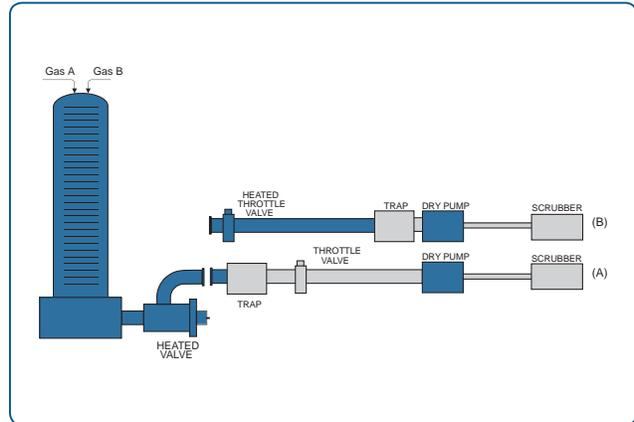

Figure 4 —
MKS heater jackets uniformly heat the pump line, elevating the vapor temperature to 130° to 150°C . This allows the by-products to reach the Vapor Sublimation Trap. The trap can be placed in a variety of locations but is usually found before the dry pump as shown in Figure 4 (A) and (B).